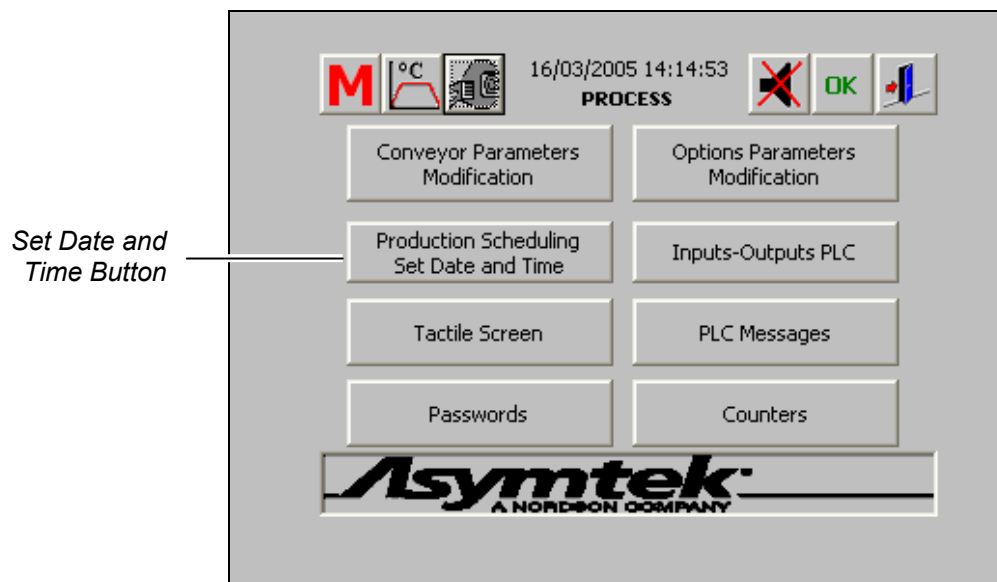

Figure 6-32 Control Menu – Set Date and Time
1. From the Main Menu, click on the **Control Menu** button. To set the time and date, click on the **Set Date and Time** button (Figure 6-32).